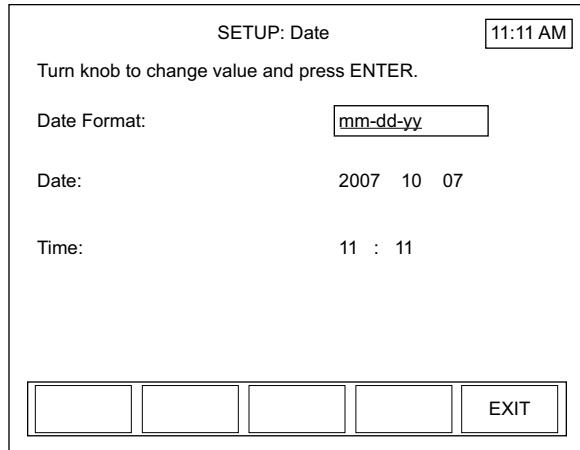

Figure 4-56. SETUP: Date/Time (Changing the Values)
2. Press the ENTER/SET button to Display the SETUP: Date screen (Figure 4-56).